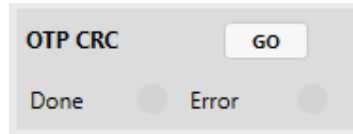

Figure 43: OTP CRC Monitor
11. Monitor the OTP CRC statuses (see Figure 43).